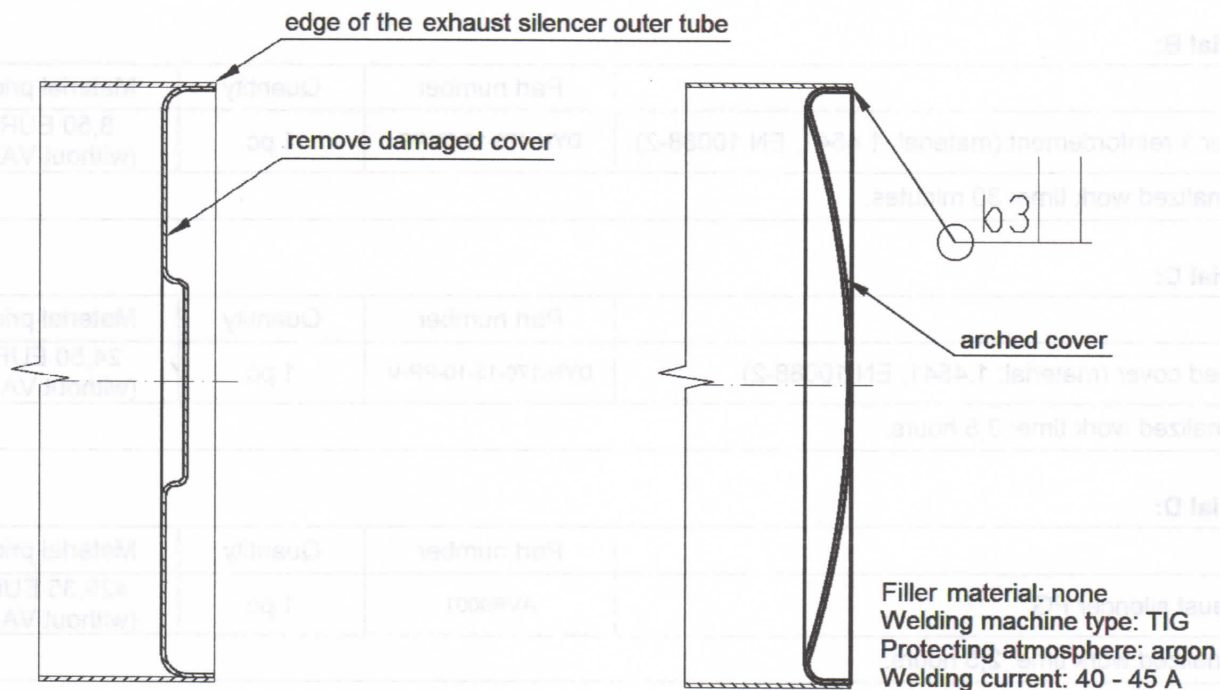

Fig. 5 Exchange of right cover of exhaust silencer
- C. If visible cracks are detected in larger range than 120° of circular flange, perform immediate the exchange of right cover of exhaust silencer according to fig. 5 (required material C) or follow the procedure D.